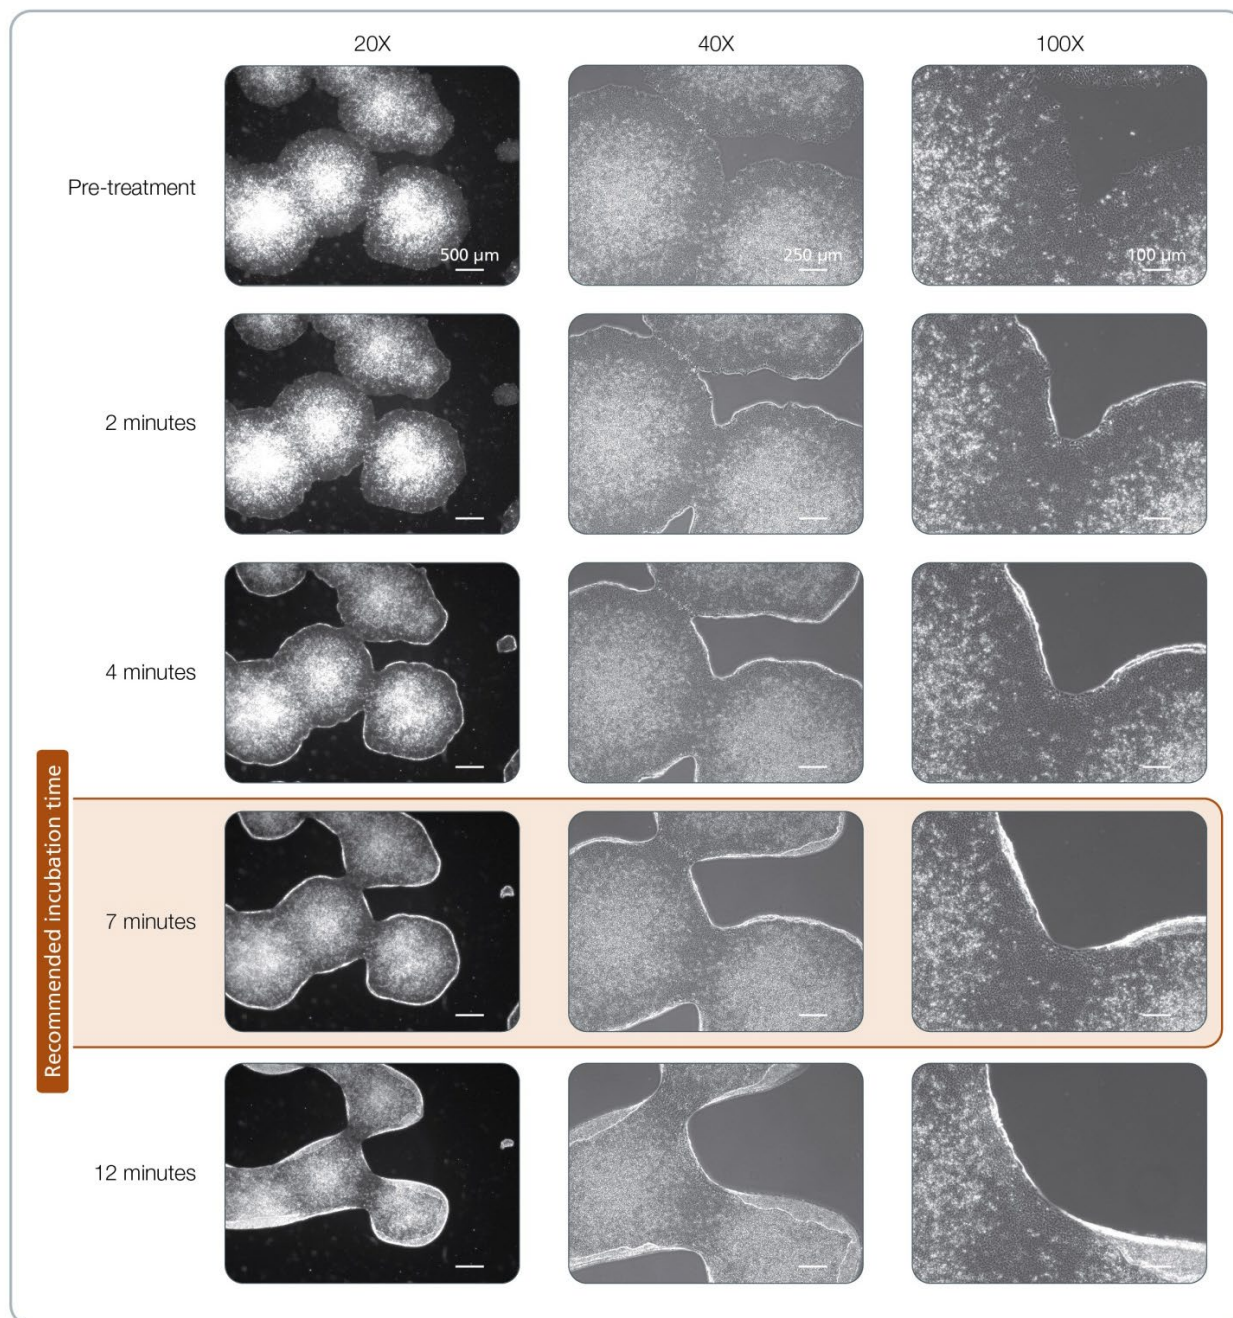

Figure 12. Effect of Dispase on hESCs Cultured on Corning® Matrigel® in mTeSR™1
7. Incubate at 37°C for 7 minutes, until the colony edges begin to loosen and lift from the dish. Refer to Figure 12 for additional information.